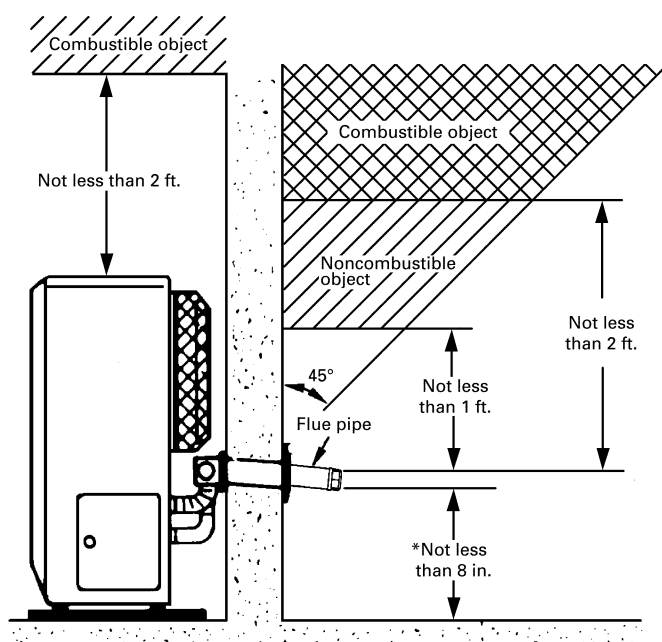

Fig. 2
2. Make sure that the outside area to where the flue pipe will reach is clear of any objects. (See Fig. 2 & 3)